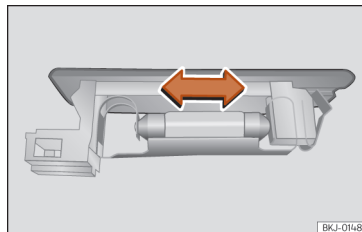

Fig. 63 Boot light.
- Press the bulb sideways and remove it from its housing »» **Fig. 63.**